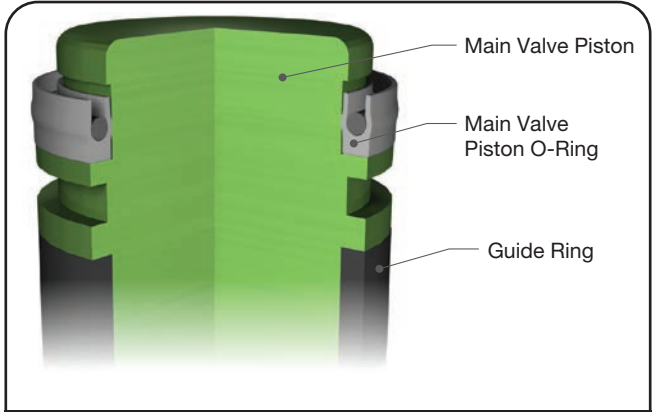

Figure 28: Main Valve Piston
- 10. For Teflon seals make sure of the integrity of the Teflon seal and seal spring. Install Disc Seal on Disc outside diameter on the opposite end of the disc seat as shown in Figure 28.
If an O-Ring seal is used, it is installed in the groove between where the Guide Ring is installed and where a Spring Energized Seal would be installed (Figure 28).